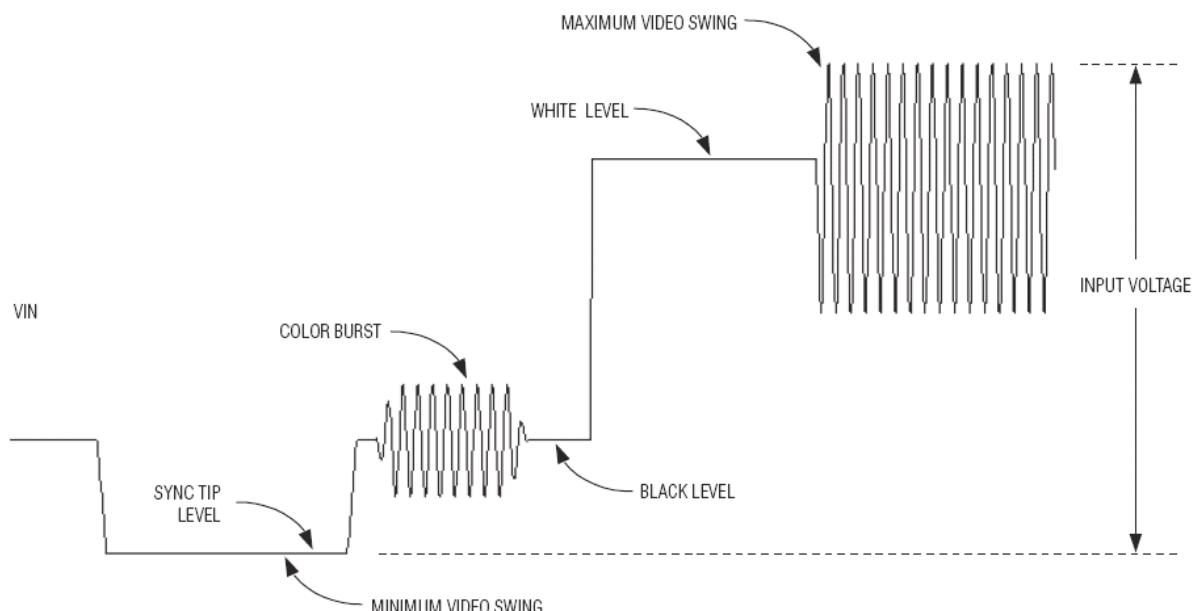

图 3. 术语定义
**Note 2:** The input-voltage operating range is the input range over which the output signal parameters are guaranteed (Figure 3).
**Note 3:** The input-voltage sync detection range is the input composite video range over which an input sync signal is properly detected and the OSD signal appears at  $V_{OUT}$ . However, the output voltage specifications are not guaranteed for input signals exceeding the maximum specified in the input operating voltage range (Figure 3).